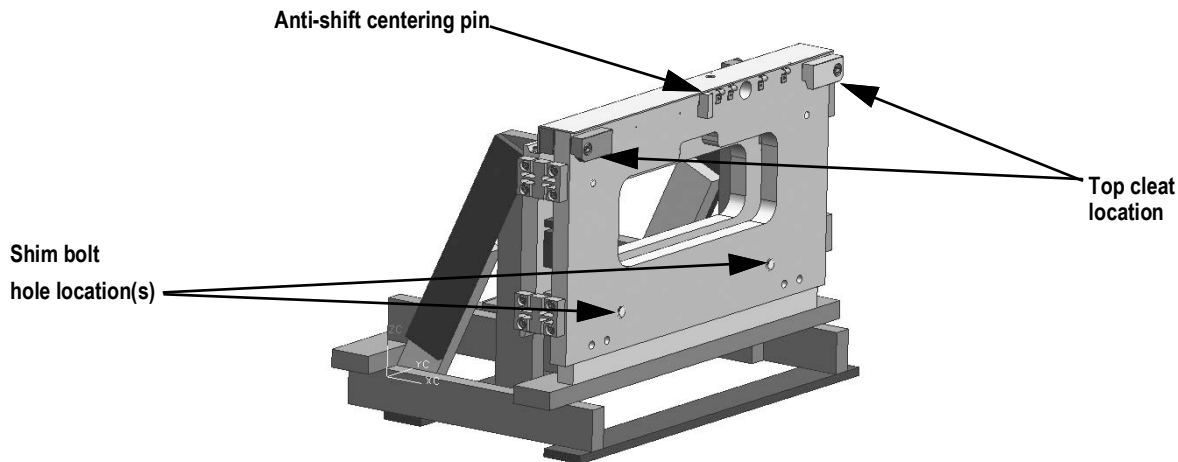

Figure 2-9. Anti-shift Centering Pin, Shim Bolts and Top Cleat Locations (One Scale Configuration Shown)
4. Carefully and slowly raise the scale carriage slightly so the top cleats (cleat location shown in Figure 2-9) of the scale hook onto the forklift carriage. If they do not hook, push the scale toward the forklift as it is being raised.